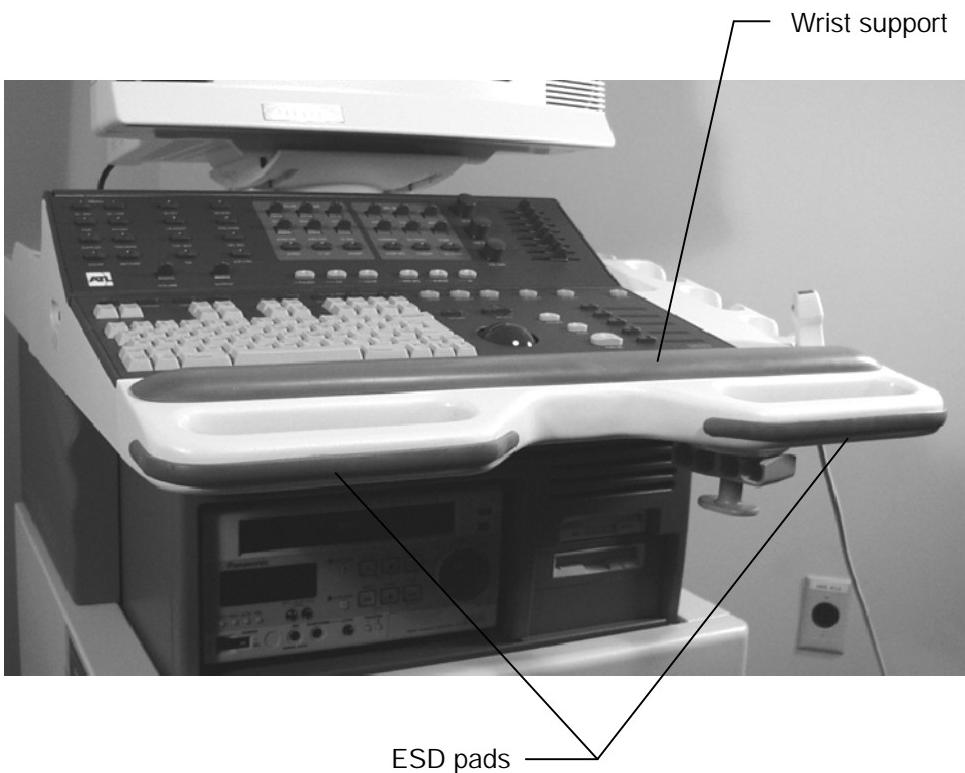

Figure 7-1. Locations of the Wrist Support and ESD Pads
- \$ The following precautions can help to reduce ESD: anti-static spray on carpets; anti-static spray on linoleum; anti-static mats; or a ground wire connection between the system and the patient table or bed. Additionally, any build-up of electrical energy can be dissipated by first touching the gray, rubber ESD pads provided on the system handles and wrist support of the system keyboard, before using the system (Figure 7-1).